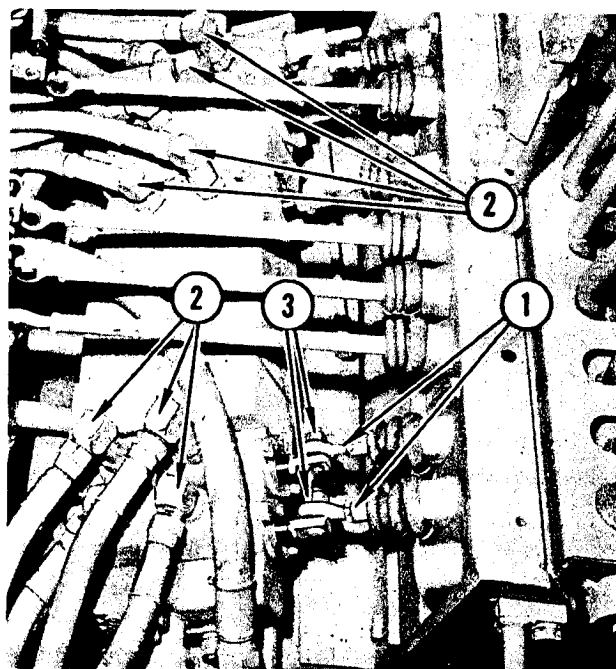

FIGURE 7. VALVE CONTROL LINKAGE
Refer to Figure 7. Disconnect control linkage for each valve by removing hex nuts (1) from connect pins. Remove connect pins from valve plungers.